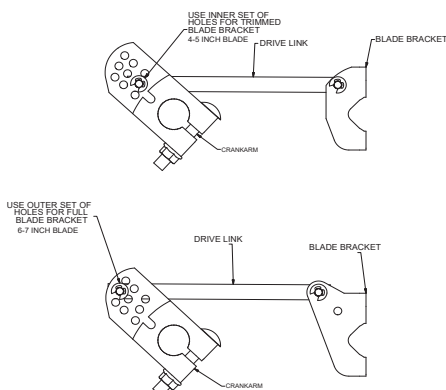
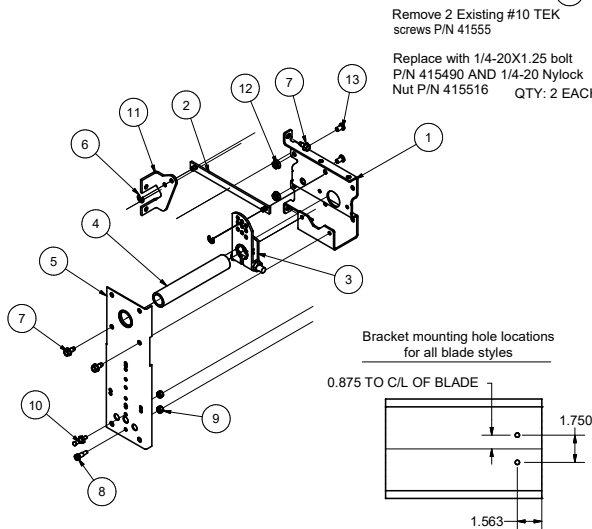

Figure 2: Drive Link Placement on Crankarm
Figure 3 Mounting Kit
- actuator bracket (item #1). Fasten actuator bracket to the left jamb of damper frame using (1) thread cutting screw in top tab of bracket (0.203 in. hole is required). Note bottom tab does not get a fastener.
- Secure the drive link (item #2) to the blade drive lever (item #13) using the e-clip (item #6) to lock it in place. Slide ½ in. diameter shaft (item #4) through the crankarm (item #3) with the bolt facing outward from the damper. Slide the shaft through the bearing on the actuator bracket (item #1). Install the drive link (item #2) to the crankarm (item #3) using an e-clip. See **Figure 2** to determine the hole to attach the drive link.
- Drill (2) 0.203 inch holes in the first blade (when one or two blade damper) or third blade (more than a two blade damper) at a location as shown above for the blade type you have (see **Figure 3**).
- Install (2) ¼ -20 x ½ studs (item #14) and nuts (item #13) through holes in damper frame and attach the actuator bracket (item #1). Fasten actuator bracket to the left jamb of damper frame using (1) thread cutting screw in top tab of bracket (0.203 in. hole is required). Note bottom tab does not get a fastener.
- Secure the drive link (item # 2) to the blade drive lever (item #12) using the e-clip (item #6) to lock it in place. Slide 1 in. diameter shaft (item #4) through the crankarm (item #5) with the bolt facing outward from the damper. Slide the shaft through the actuator bracket (item #1). Install the drive link (item #2) to the crankarm (item #3) using an e-clip. See **Figure 2** to determine the hole to attach the drive link.